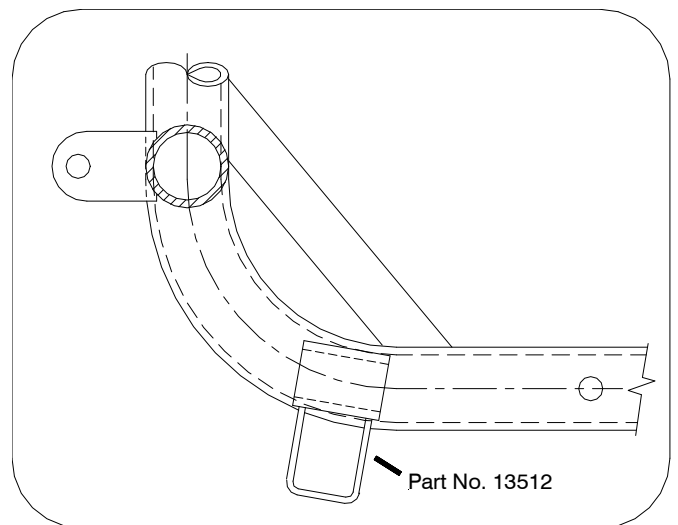

Figure 2
**Note:** 13512 Stops may need to be welded to the stops on the 11255 lift frame to avoid the plow lifting too high during stacking. See Figure 2.